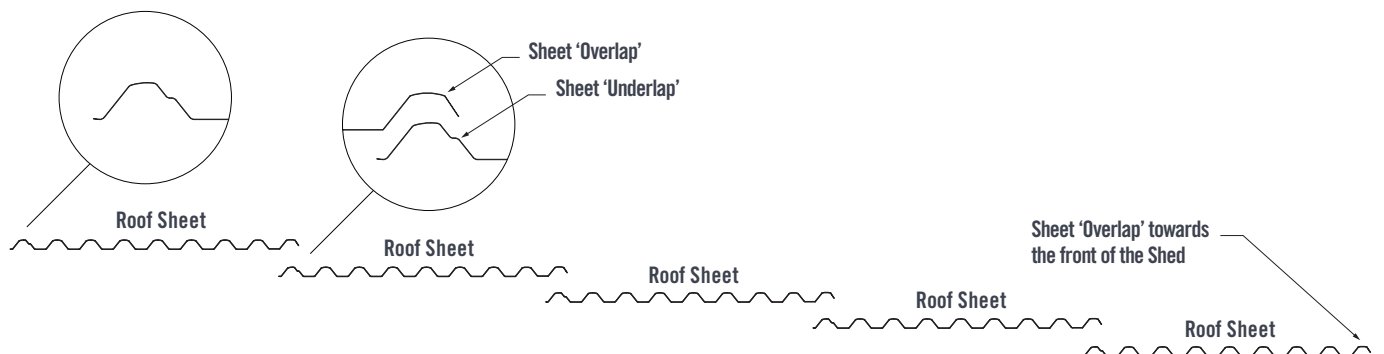
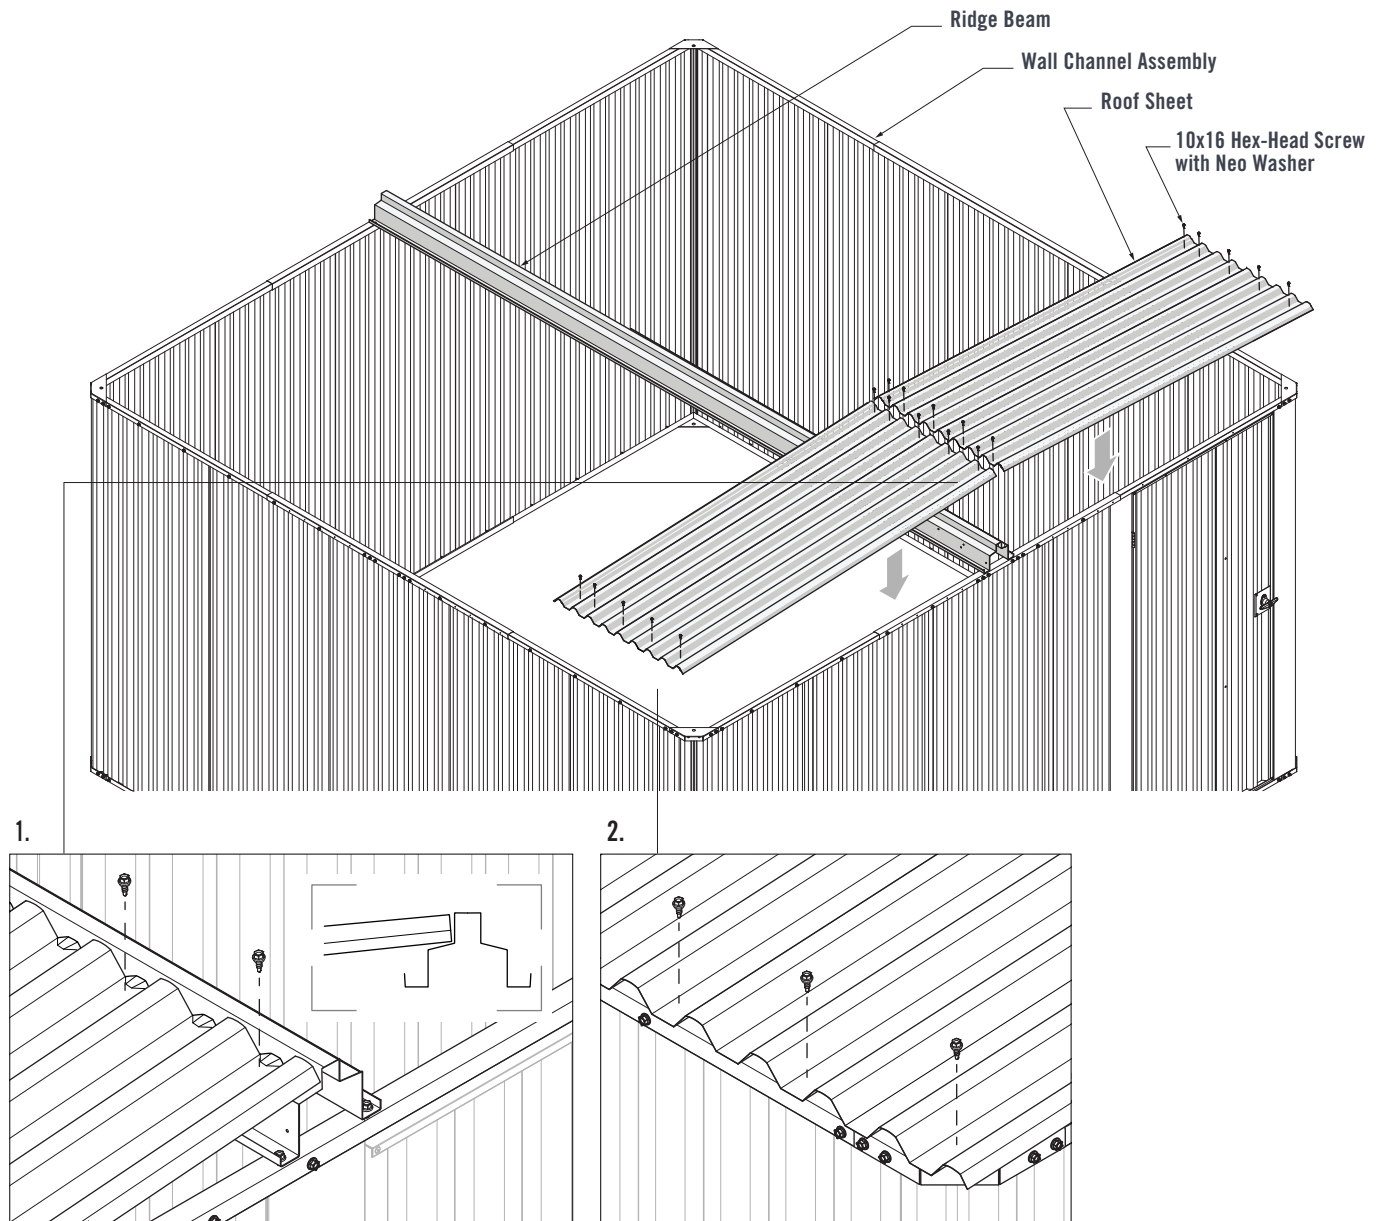
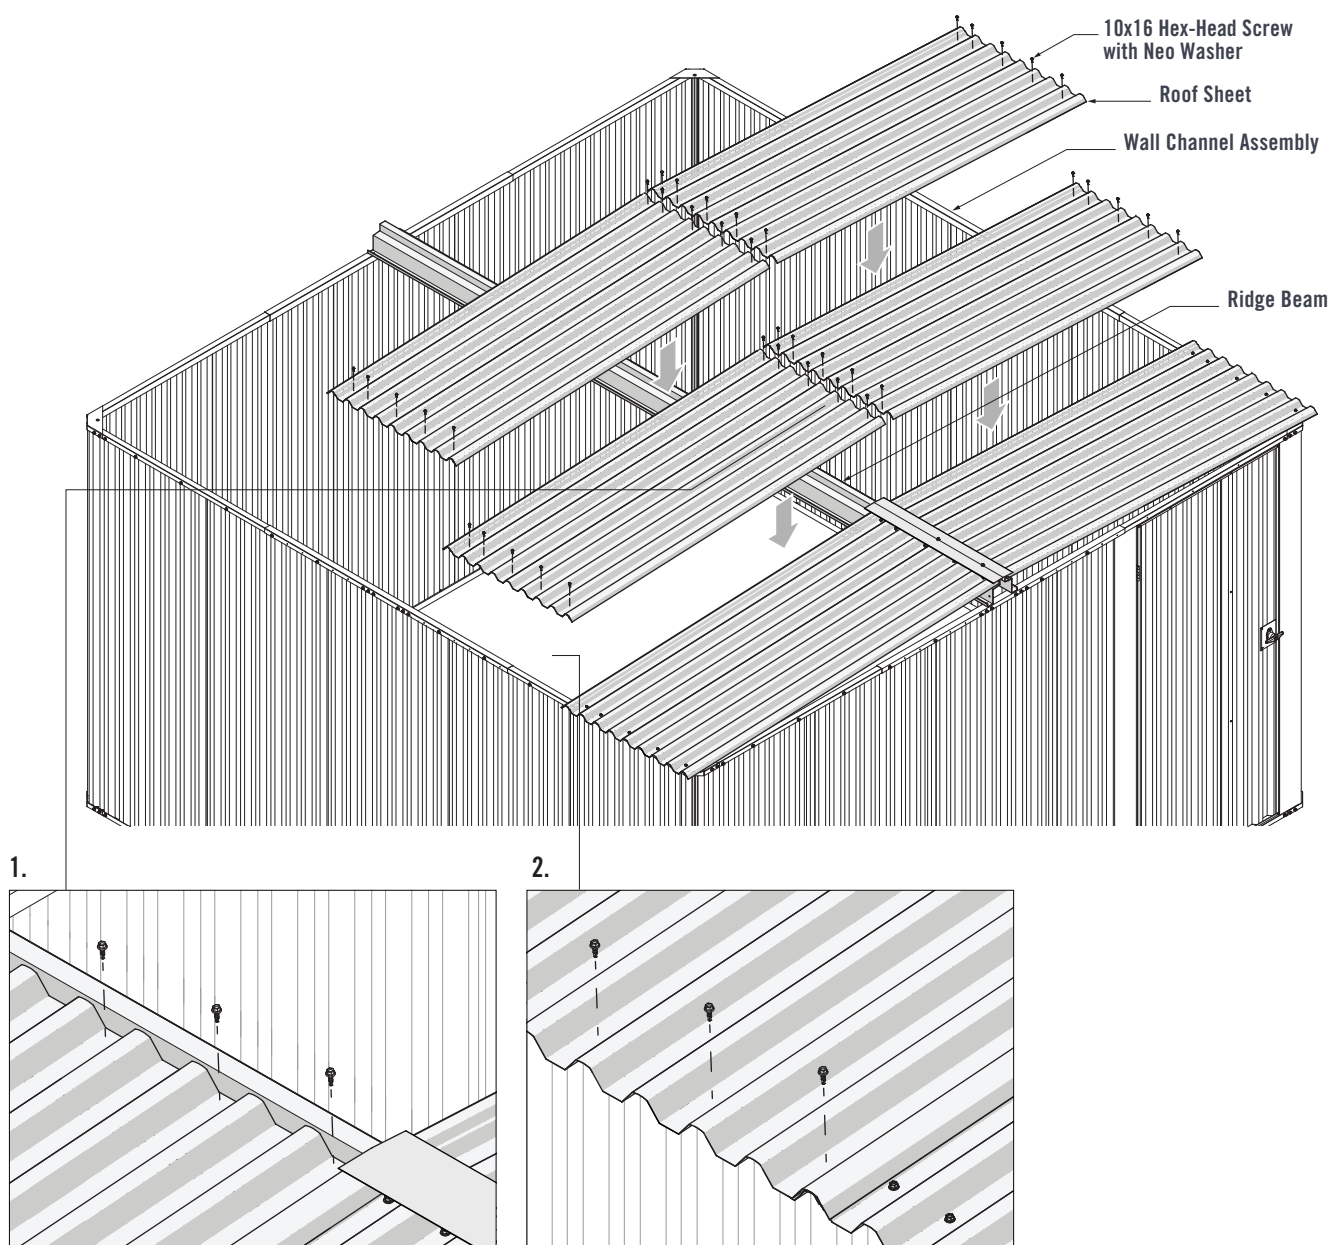
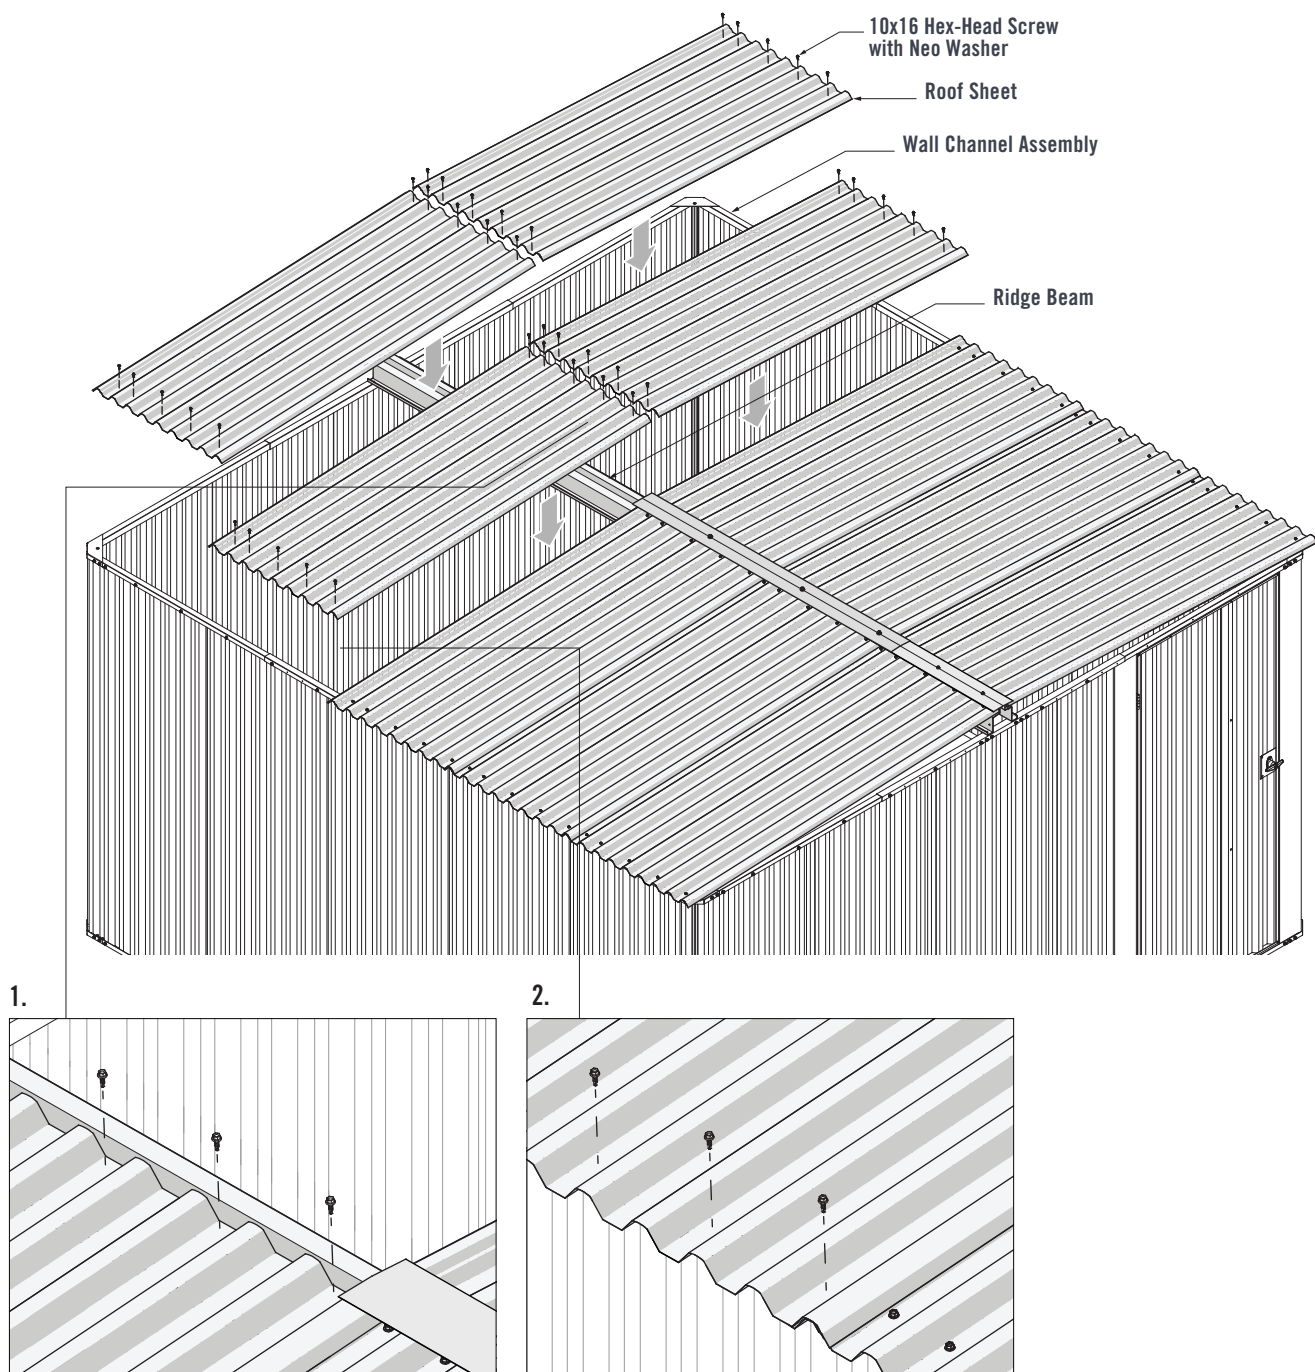

FIGURE 6.2
FIGURE 6.4
FIGURE 6.6
FIGURE 6.8
Refer to the sheet layout below when installing Roof Sheets (Figure 6.2).
Refer to Sheet layout in Figure 6.2. Lay a Roof Sheet onto the Ridge Beam and Wall Channel Assemblies, ensuring the overlap end of the Roof Sheet is facing the front of the shed (Figure 6.4).
1. Ensure the end of the Roof Sheet is in-line with the end of the Ridge Beam. Fasten five 10x16 Hex-Head Screws with Neo Washers through the pans of the Roof Sheet and into the Ridge Beam (Figure 6.4).
2. Fasten five 10x16 Hex-Head Screws with Neo Washers through the pans of the Roof Sheet and into the Wall Channel Assemblies (Figure 6.4).
Refer to Sheet layout in Figure 6.2. Lay a Roof Sheet onto the Ridge Beam and Wall Channel Assemblies, ensuring the overlap end of the Roof Sheet is facing the front of the shed (Figure 6.6).
1. Ensure the end of the Roof Sheet is in-line with the end of the Ridge Beam. Fasten five 10x16 Hex-Head Screws with Neo Washers through the pans of the Roof Sheet and into the Ridge Beam (Figure 6.6).
2. Fasten five 10x16 Hex-Head Screws with Neo Washers through the pans of the Roof Sheet and into the Wall Channel Assembly (Figure 6.6).
Refer to Sheet layout in Figure 6.2. Lay a Roof Sheet onto the Ridge Beam and Wall Channel Assemblies, ensuring the overlap end of the Roof Sheet is facing the front of the shed (Figure 6.8).
1. Ensure the end of the Roof Sheet is in-line with the end of the Ridge Beam. Fasten five 10x16 Hex-Head Screws with Neo Washers through the pans of the Roof Sheet and into the Ridge Beam (Figure 6.8).
2. Fasten five 10x16 Hex-Head Screws with Neo Washers through the pans of the Roof Sheet and into the Wall Channel Assembly (Figure 6.8).